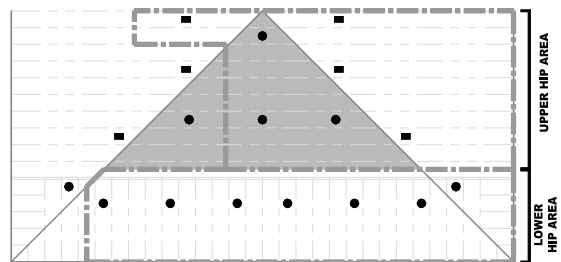

FIGURE 16B
- Calculate up to the 7 most demanding contiguous sprinklers along the eave. This may include sprinklers on both sides of the hip line as shown. See Figure 16B.
If there are 4 sprinklers or less in the shaded area (Figure 16B):